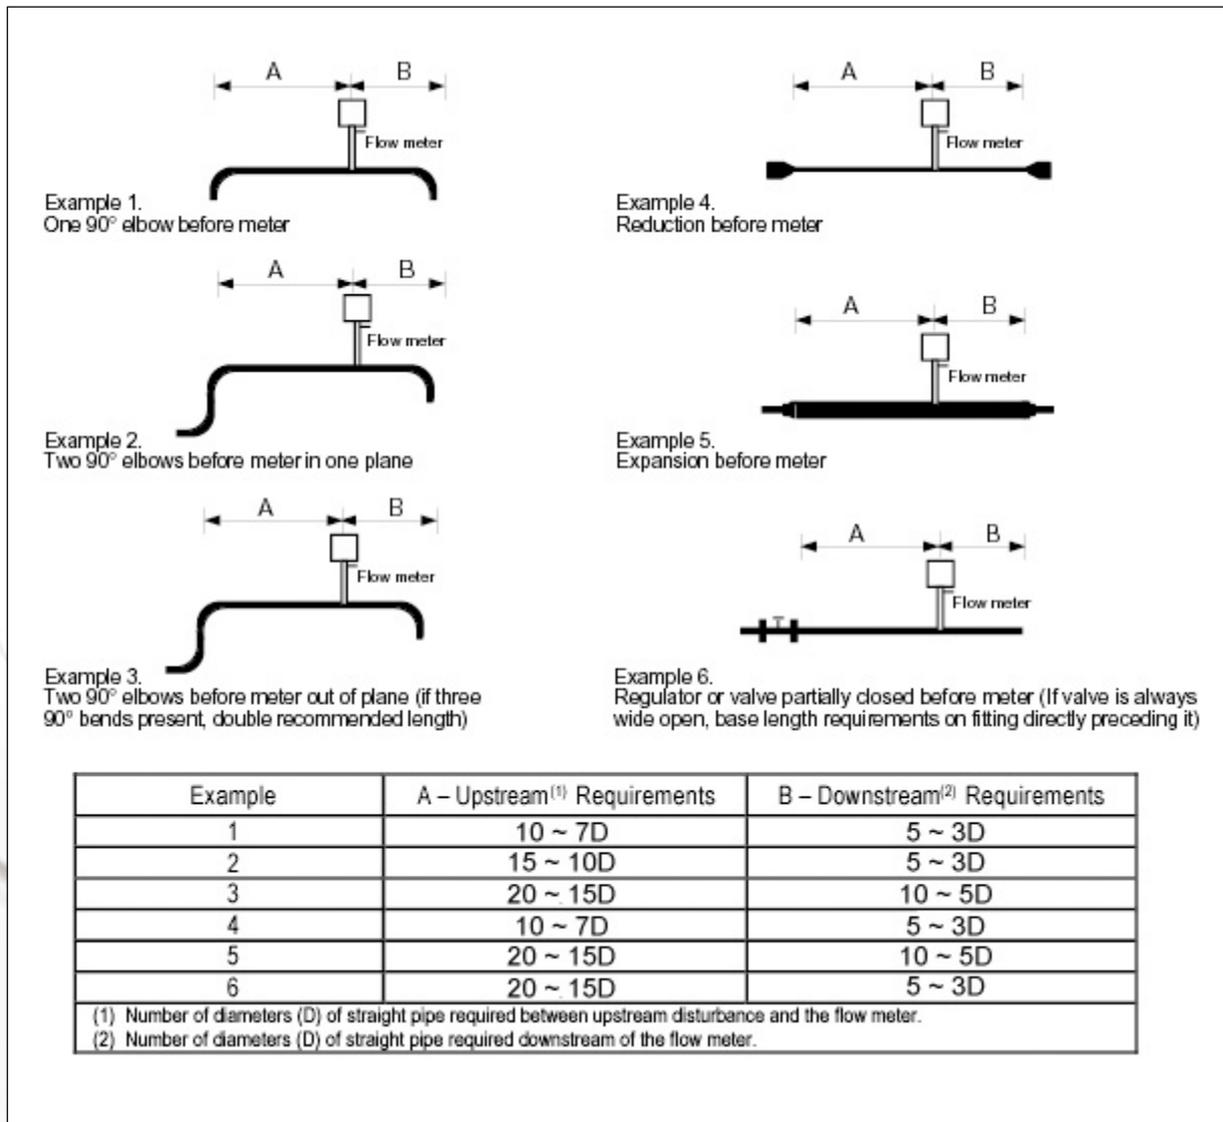

Figure 2-1. Recommended Pipe Length Requirements for Installation
2. The location meets the required minimum number of pipe diameters upstream and downstream of the sensor head (see Figure 2-1 on the next page).
1. Confirm that the installation site meets the minimum upstream and downstream pipe diameter requirements shown in Figure 2-1.